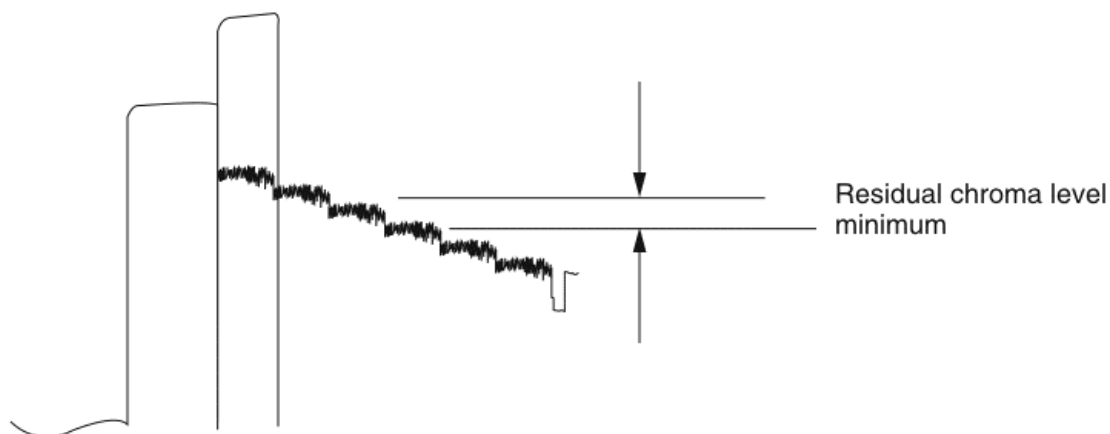

FIGURE 39-8 The typical 8-mm comb filter phase adjustment.
The sequence of adjustments should be made in order of the servo/system control circuits, video circuit, and audio circuits within the servo/system circuit to make the OSD character position and the video center adjustments. Next, make the video-circuit adjustments of the playback frequency characteristic confirmation, flying erase-head confirmation, sync AGC adjustment, comb-filter phase adjustment, comb-filter level adjustment, PB line-out Y-level adjustment, PB Y-level confirmation, Y FM carrier frequency adjustment, Y FM deviation adjust, luminance (Y) record current adjustment, chroma (C) record current level adjust, audio (AFM) FM record level confirmation, and ATF record current confirmation (Fig. 39-8).